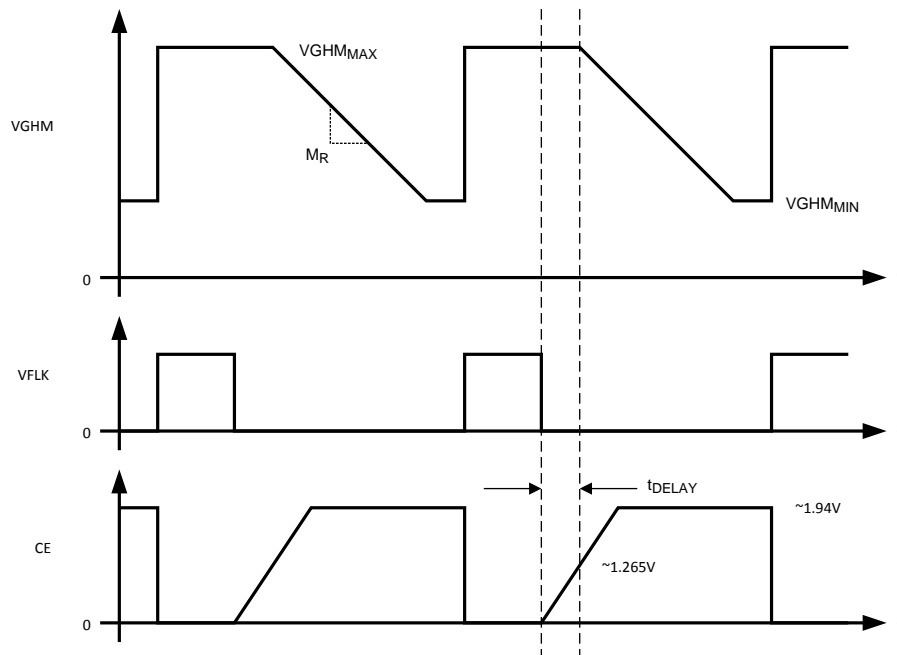
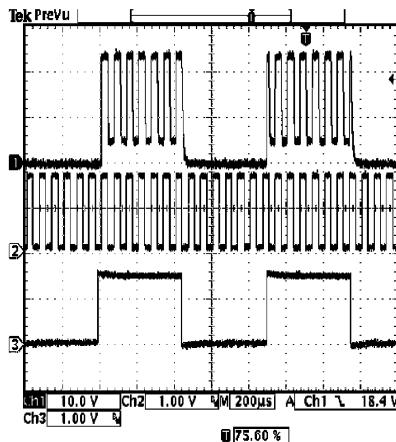

Figure 57.
Figure 58. Waveform
The Gate Pulse Modulation (GPM) block is designed to provide a modulated voltage to the gate driver circuitry of a TFT LCD display. Operation is best understood by referring to the GPM block diagram in the Block Diagrams section, the drawing in Figure 57 and the transient waveforms in Figure 58 and Figure 59.
When VDPM is high, typical waveforms for the GPM block can be seen in Figure 57. The pin VGH is typically driven by a 2x or 3x charge pump. In most cases, the 2x or 3x charge pump is a discrete solution driven from the SW pin and the output of the boost switching regulator. When VFLK is high, the PMOS switch P2 is turned on and the PMOS switch P3 is turned off. With P2 on, the VGHM pin is pulled to the same voltage applied to the VGH pin. This provides a high gate drive voltage,  $VGH_{MAX}$ , and can source current to the gate drive circuitry. When VFLK is high, NMOS switch N3 is on which discharges the capacitor CE.
When the voltage on CE reaches about 1.265V and the VFLK signal is low, the PMOS switch P2 will turn off and the PMOS switch P3 will turn on connecting resistor R3 to the VGHM pin through P3. This will discharge the voltage at VGHM at some rate determined by R3 creating a slope,  $M_R$ , as shown in Figure 57. The VGHM pin is no longer a current source, it is now sinking current from the gate drive circuitry.
Figure 58 and Figure 59 give typical transient waveforms for the GPM block. Waveform (1) is the VGHM pin, (2) is the VFLK and (3) is the VDPM. The output of the boost switching regulator is operating at 8.5V and there is a 3x discrete charge pump (~23.5V) supplying the VGH pin. In Figure 58 and Figure 59, the VGHM pin is driving a purely capacitive load, 4.7nF. The value of resistor R1 is 15kohm, R2 is 1.1k $\Omega$  and R3 is 750 $\Omega$ . In both transient plots, there is no  $C_E$  delay capacitor.